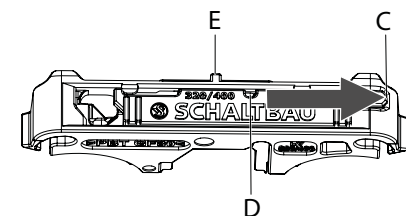
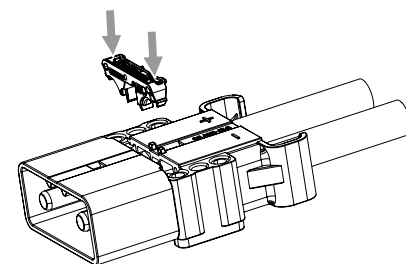

Fig. 22:
Fig. 23:
2. Ensure that the latch on the slider is in the unlocked position (*Fig. 22*).
- Latch pushed fully to the right (C).
- Recess (D) of the latch and bar (E) of the main body are not aligned over each other.
4. Push the slider in on both sides until it audibly clicks into place (*Fig. 23*).